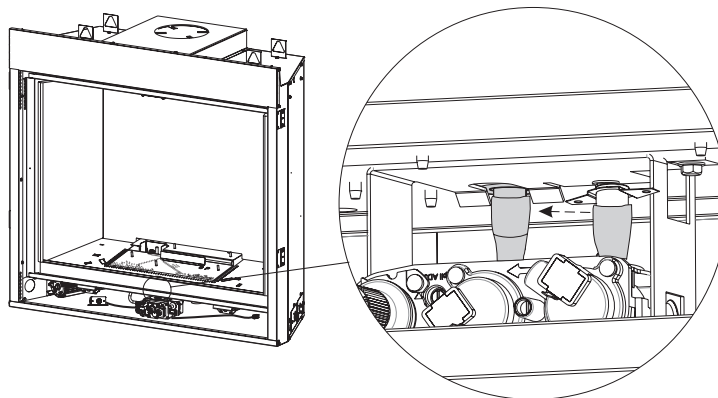

Figure 16
13. Install thermo disc by snapping it into bracket under the burner assembly. **See Figure 16.**